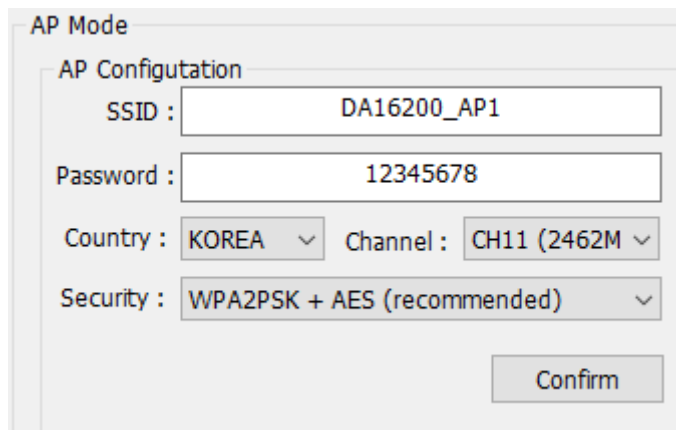

Figure 22: AP Configuration
2. Set the fields SSID, Password, Country, Channel, and Security mode. See Figure 22.